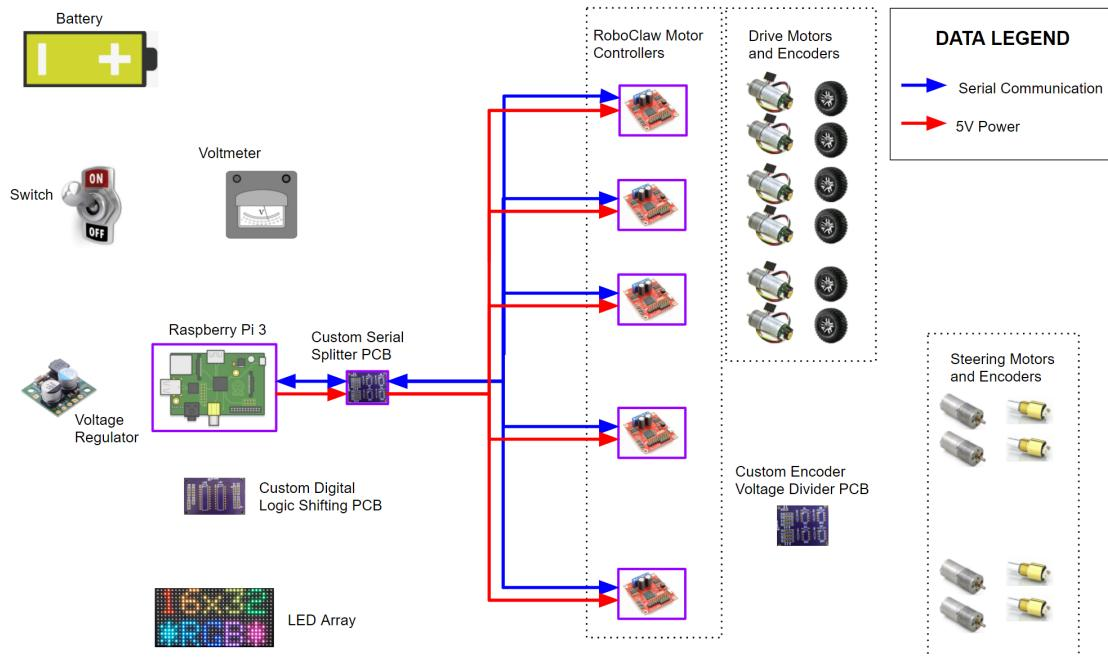

Figure 19: Serial Splitter Overview
1. The board will come unpopulated and will look like the Figure 19. First take and solder the 4.7K resistor and all of the header pins into the board.
Next we need to bring power to the Raspberry Pi. It requires a regulated 5V DC power source, so it will be powered from the 5V regulator. Figure 19 shows the section of the power diagram we'll be working on, with the power connections shown in **RED**.
Connecting the Raspberry Pi to Serial Splitter Board: In order for the Raspberry Pi to talk to the motor controllers we will be using Serial communication. Figure 19 shows the section of the power diagram we'll be working on, with the power connections shown in **RED**, and data lines in **BLUE**.